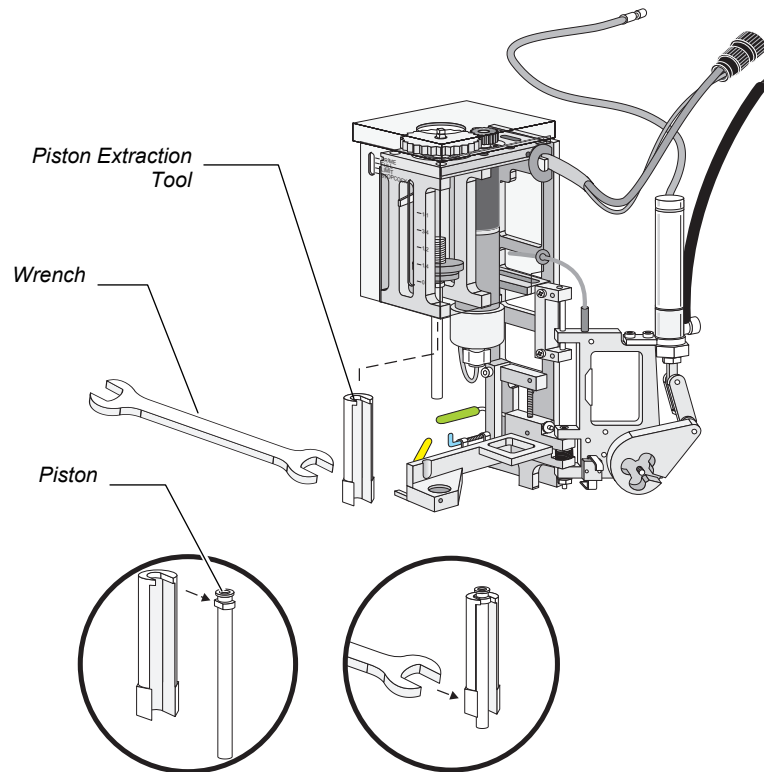

Figure 2-5 Using the Piston Extraction Tool
7. Place the piston extraction tool around the piston, aligning the flats on the piston with the opening on the beveled end of the piston extraction tool. See Figure 2-5.